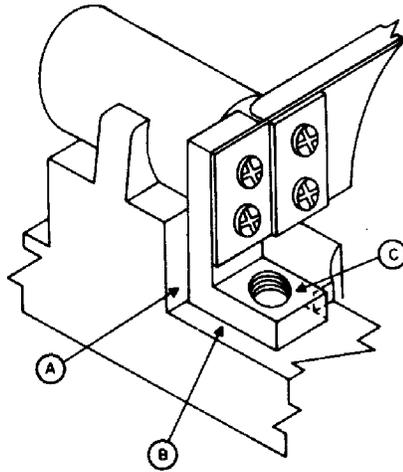

Figure 10. Bias Spring Bracket and Clapper Assembly for Type 860 Ringer.
- (a) The "L" shaped bracket of the bias spring and clapper assembly shall be as nearly in contact with surface A, B and C of Figure 10 as possible, after which the permanent magnet shall be positioned firmly against the L shaped bracket.